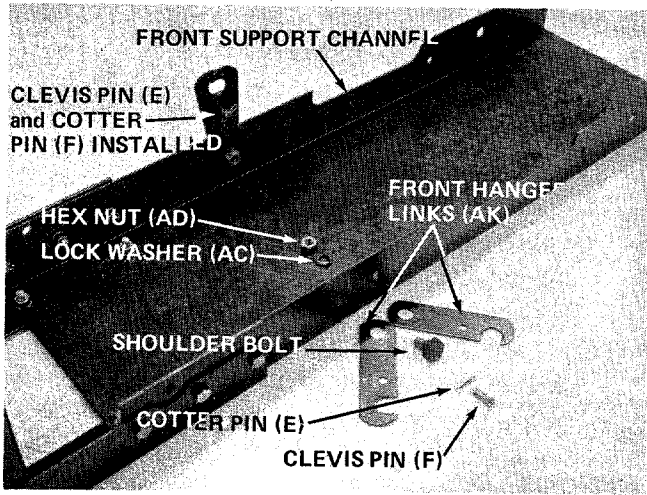

FIGURE 11
- Assemble the front hanger links (AK) to the front support channel. Insert shoulder bolt (AB) through large hole on hanger links (AK), then through the front support channel. Secure with lock washer (AC) and hex nut (AD). See figure 11. Insert clevis pin (F) through small hole in front hanger links (AK) to hold them in position. Secure with cotter pin (E). See figure 11. Cotter pin and clevis pin will be removed later.